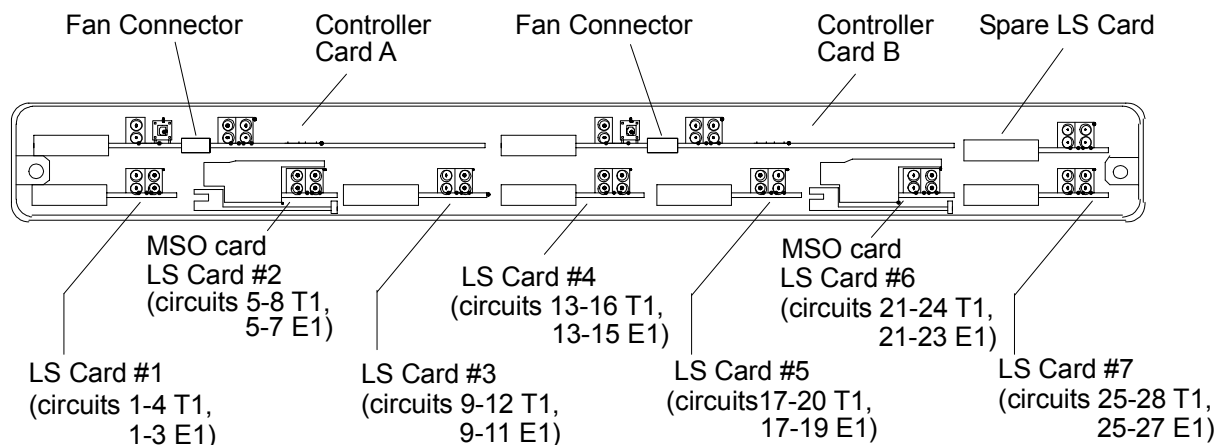

Figure 10-1 Card Locations (front view)
2. Locate the low-speed card you want to remove. See Figure 10-1 for low-speed card and circuit locations.